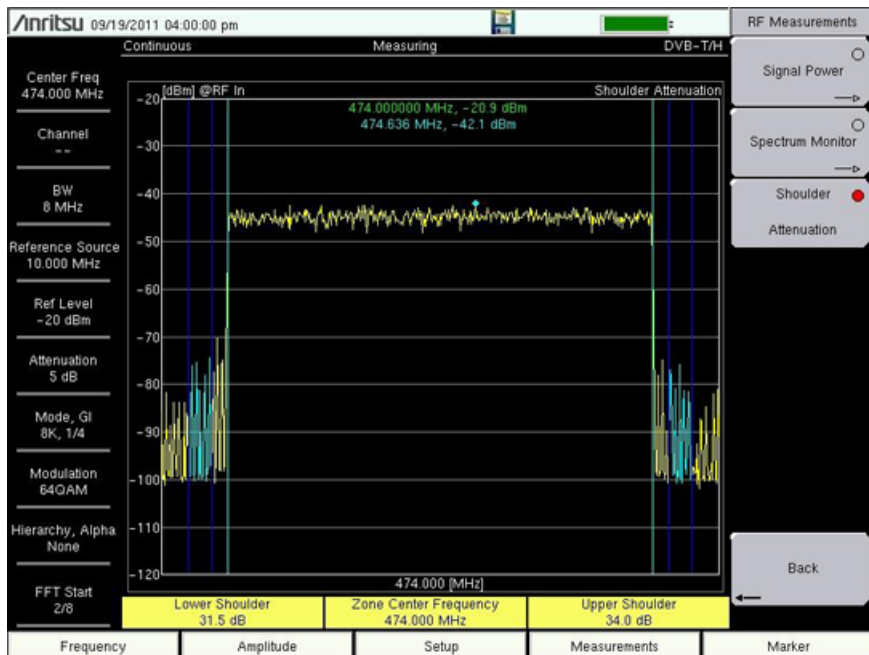

Figure 2-21. Shoulder Attenuation Measurement Screen
3. Press the Shoulder Attenuation submenu key to activate that measurement. The sample image in Figure 2-21 may differ from the actual screen on your instrument.